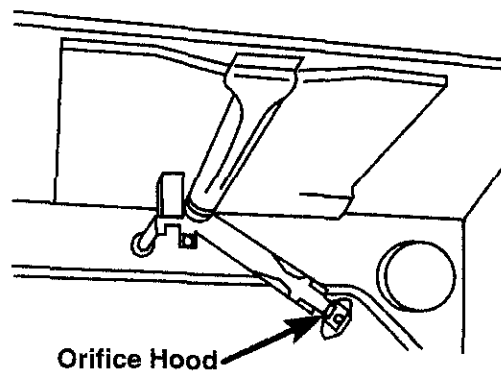

Fig. 29
8. Broil Burner (Fig. 29): Use a ½ inch open-end wrench to turn the orifice hood down snug onto pin (approximately 2 to 2-½ turns). DO NOT OVERTIGHTEN the orifice hood. The burner flame cannot be properly adjusted of this conversion is not made.